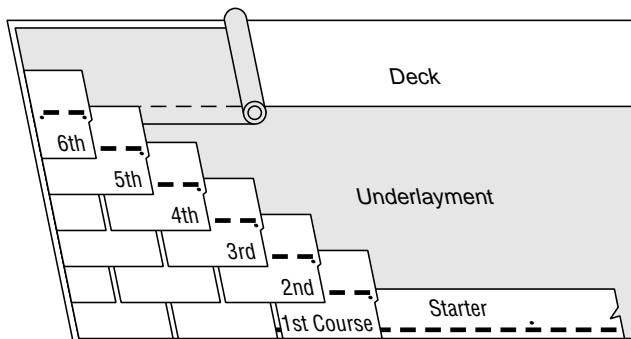

Figure 12-16: Half-Tab Method.
3. Continue with full-length starter-strip shingles along the eaves. (Figure 12-16).
1ST COURSE: Apply a full shingle at the lower left corner of the roof, tabs flush with the starter course (Figure 12-16).
2ND COURSE: Cut $6\frac{9}{16}$ " (half of a tab) off the left end of a shingle and apply the remaining piece over the first-course shingle, flush with the left edge and exposing the first course $5\frac{5}{8}$ " (Figure 12-16).
3RD THROUGH 6TH COURSES: Each succeeding course, up to and including the sixth course, should start with a shingle one-half of a tab ($6\frac{9}{16}$ ") shorter (cut-off from the left end) than the previous course (Figure 12-16). Expose each course $5\frac{5}{8}$ ".